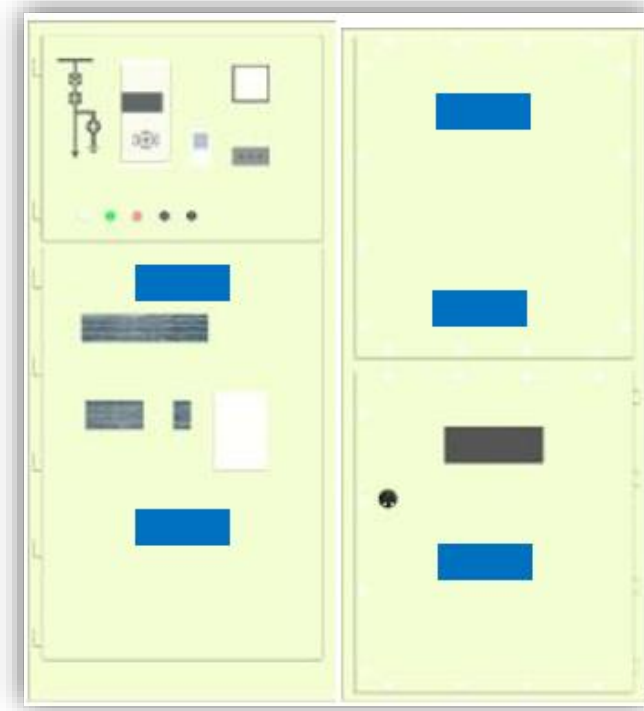

Figure 4.8. Selecting switchgear testing points (Blue points are TEV measurement points)
**Switchgear PD TEV Detection:** When using TEV detection, the testing location is the point on the electrical equipment that the sensor makes direct contact with the surface. The detection point is different due to different type of electrical equipment, which is based on the configuration of the power parts. In the switchgear partial discharge testing process, the location of all electrical equipment should first be determined, mainly testing partial discharge of busbar (connections, wall bushing, supporting insulator), circuit breakers, CT, PT, cable joints and other equipment, most of these parts are located in the middle and lower parts of the front face panel of the switchgear and the upper, middle and lower parts of the back panel. We should conduct partial discharge detection in these locations of the switchgear. Test points are shown in Figure 4.8. In the testing process we should ensure that the sensor and switchgear metal panels are **in close contact**, and the sensor should be as close to the observation windows, ventilation louvers and other parts of metal panel that the PD signal can easily escape from. If the detected value is large in magnitude, **it is recommended to measure more than three times to make sure the test results are consistent.**